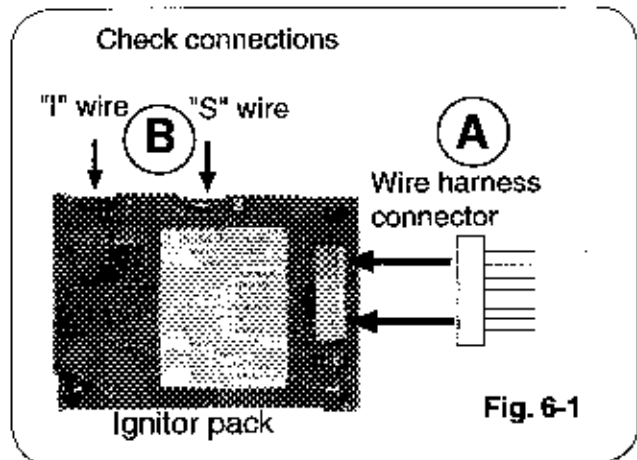

Fig. 6-1
1. Check that the wiring harness is fitted tightly into the connector on the green ignitor pack in the rear of the switch box (Fig. 6-1).